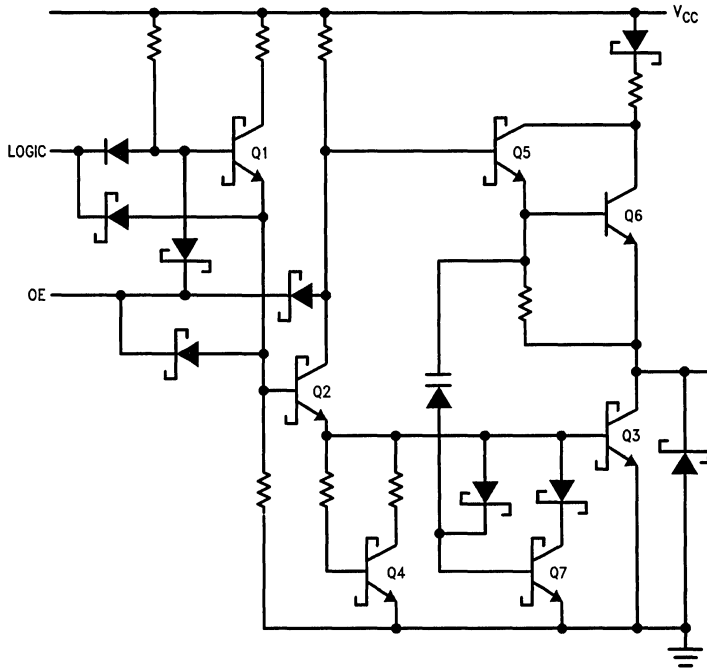

FIGURE 1-19. Typical TRI-STATE Input Control
A partial schematic of a circuit having a TRI-STATE output is shown in *Figure 1-19*. When the internal Output Enable (OE) signal is HIGH, the circuit operates in the normal fashion to provide HIGH or LOW output drive characteristics. When OE is LOW, however, the bases of Q1, Q2 and Q5 are pulled down. In this condition the output is a high imped-